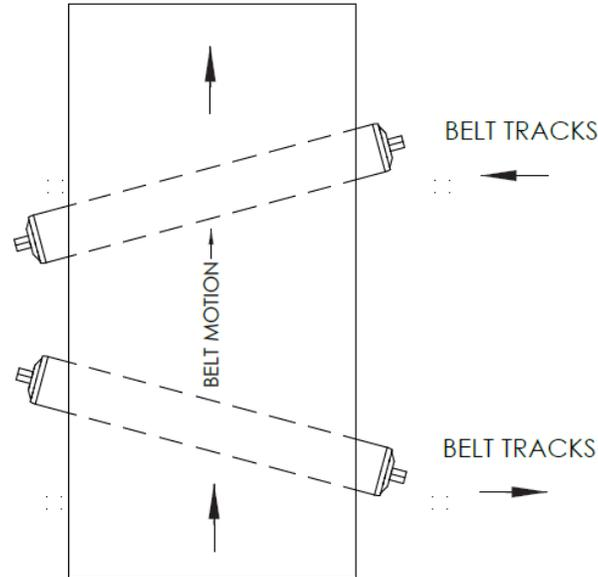

Figure 25: Belt Tracking by Adjusting Snub Rollers
8. If the belt is joined with lacing, use the inner set of tension window indicators. If the belt is joined with a hot splice, use the outer set of tension window indicators. See Figure 25: Tension Indicators.
9. For the first installation of a new belt, tighten until the spring side of the tension indicator is aligned with the very end of the indicator window (indicated by “maximum tension” in Figure 25: Tension Indicators). The belt will stretch during its initial run-in period and setting a higher initial tension will reduce the number of times it needs to be re-tensioned.
11. For adjusting tension or re-tensioning an existing belt, tighten until the tension indicator is within the raised portion of the indicator window (indicated by “target tension” in Figure 25: Tension Indicators).